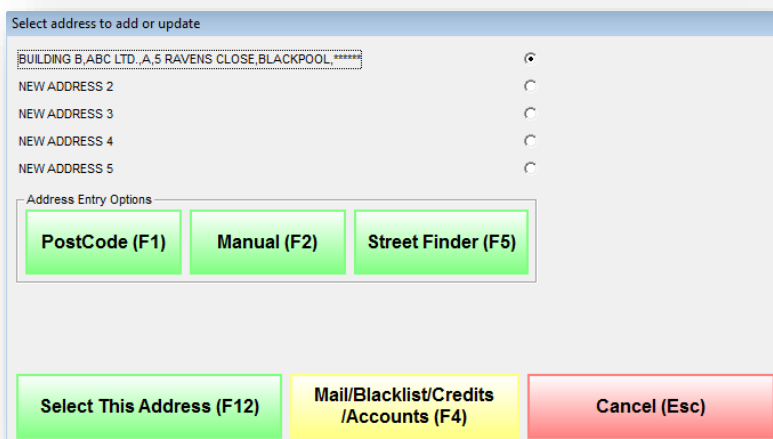

Figure 18: Add or update customer address
- add another address (see Fig. 18)